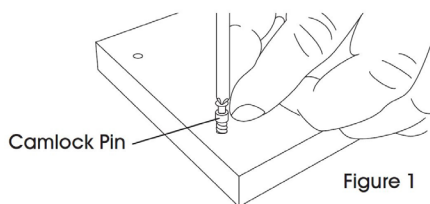

Figure 1
- 1 Using a #2 Phillips screwdriver, install the camlock pins into the pre-drilled holes in the (4) kick base boards. (See Figure 1)
- 2 Install the camlock pins into the pre-drilled holes of the spinner base using the screwdriver. (See Figure 1)